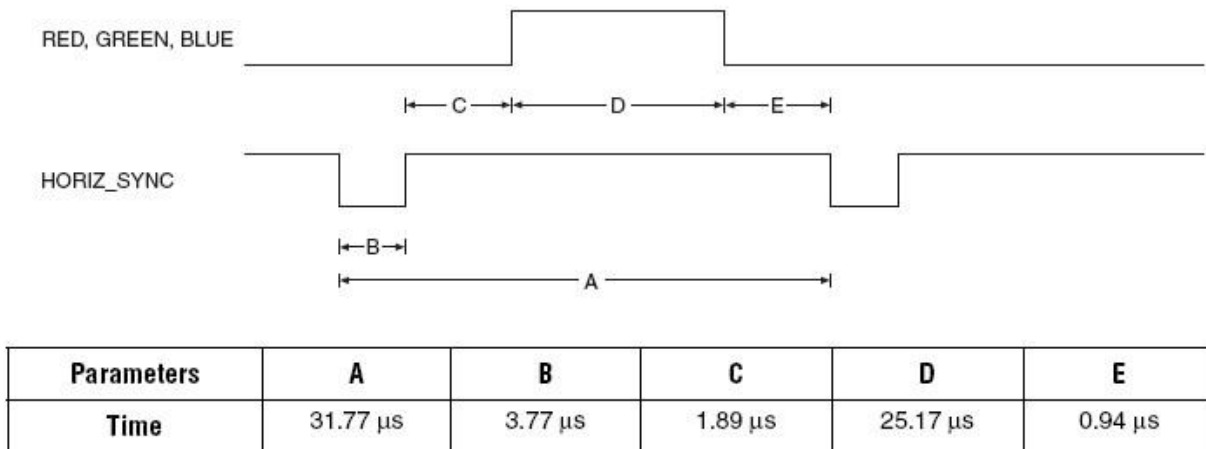
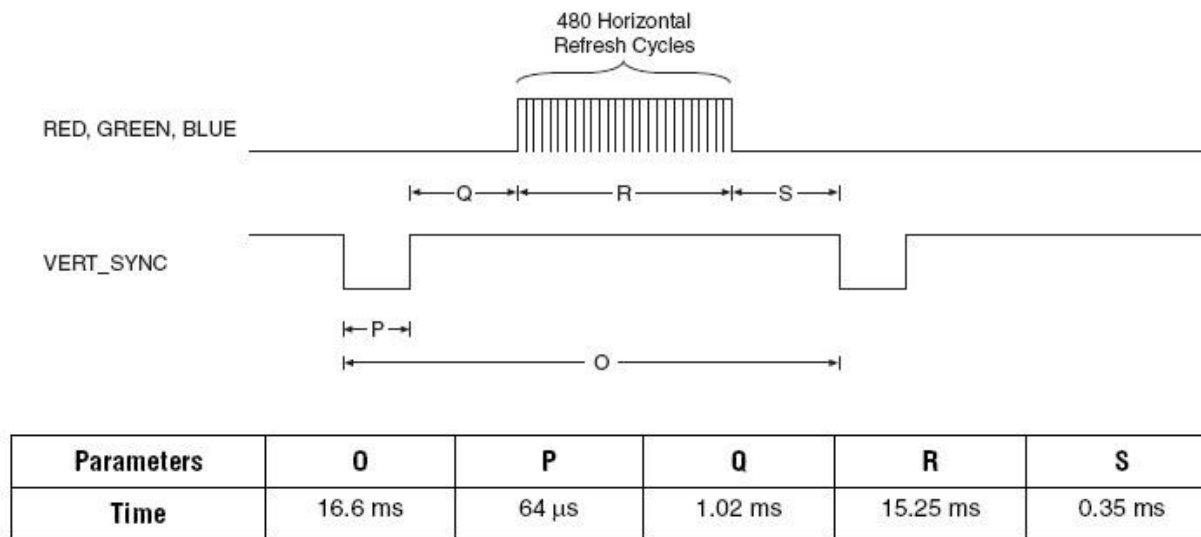

Figure 1. Horizontal Refresh Cycle.
Figure 2. Vertical Refresh Cycle.
The VGA monitor connector on the ALTERA DE0 board consists of five signals, RED(4 bits), GREEN(4 bits), BLUE(4 bits), `HORIZ_SYNC`, and `VERT_SYNC`. Look into the ALTERA DE0 Board User Manual for the header pin outs for the ALTERA DE0 board for these 5 signals. The timing relationships among this signal are shown in **Figures 1 and 2** at the end of this lab document. The generation of signals needed for the raster on the VGA monitor begins with dividing the frequency of the 50 MHz clock on the ALTERA DE0 board down to a 25 MHz pixel clock which is further divided down to the horizontal and vertical sync frequencies. This means your design will contain a **horizontal counter** and a **vertical counter**. The horizontal and vertical sync pulses of appropriate lengths are then produced from the two counters.
Horizontal and vertical synchronization. A video display consists of 640 pixels in the horizontal direction and 480 lines of pixels in the vertical direction. The monitor starts each refresh cycle by updating the pixel in the top left-hand corner of the screen, which can be treated as the origin (0,0) of an X-Y plane. After the first pixel is refreshed, the monitor refreshes the remaining pixels in the row. When the monitor receives a pulse on the **HORIZ_SYNC** pin, it refreshes the next row of pixels. The time required for the sweep, the horizontal sweep period, is nominally 31.77 μ s. This process is repeated until the monitor reaches the bottom of the screen. When the monitor reaches the bottom of the screen, a 64 μ s pulse applied to the **VERT_SYNC** pin, causing the monitor to begin refreshing pixels at the top of the screen (i.e., at [0,0]). As shown in Figure 2, the `VERT_SYNC` pulse must be repeated every 16.6 ms (vertical sweep period). A complete screen of information is being traced by the electron beam every 16.6 ms for a refresh rate of 60 Hz.
Blanking intervals. In order to accommodate the time required to move the electron beam back to the left side of the screen (horizontal retrace period) the electron beam must be turned off during the retrace time or the return trace would be visible. This is accomplished by two blanking intervals during the horizontal refresh cycle marked by B and C at the beginning of the trace and E at the end of the trace in Figure 1. Similar blanking intervals are required during vertical refresh (P, Q, and S in Figure 2). The color beams are turned on only when the horizontal counter is in the period D and the vertical counter is in period R.
- A value of zero on Hcount corresponds to the beginning of section D in Figure 1.
- A value of zero on Vcount corresponds to the beginning of section R in Figure 2.